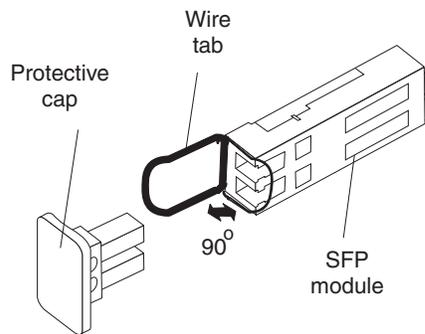

Figure 23. Unlocking the SFP module latch - wire variety
- For SFP modules containing wire tabs, unlock the SFP module latch by pulling the wire latch outward 90°, as shown in Figure 23.